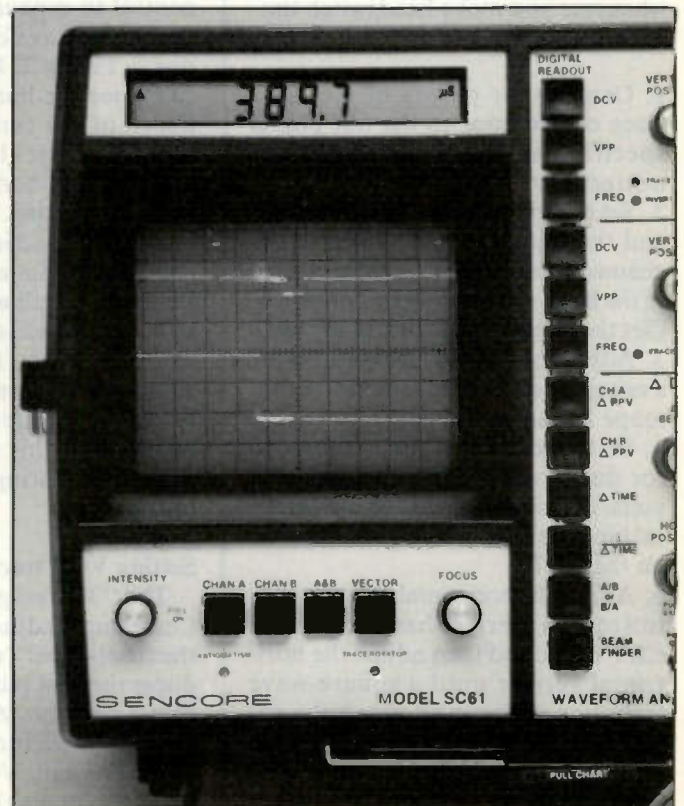

Figure 2. With the oscilloscope trace expanded, the waveform will follow the head switching alignment instructions.
7. Manipulate the horizontal position control to expand the waveform ten times. The waveform will look like the one in Figure 2. Notice that you can easily see the horizontal sync pulses ahead of the vertical sync interval. Simply adjust the VCR control so there are 3.5 horizontal lines before vertical blanking. If your oscilloscope has an add function it is even easier to compare the timing of the two signals. Follow the oscilloscope's operating instructions to add the two input signals together. Now, the head-switching squarewave causes a "jog" to appear in the composite video signal. Most people find this makes comparison easier than placing one waveform next to the other.